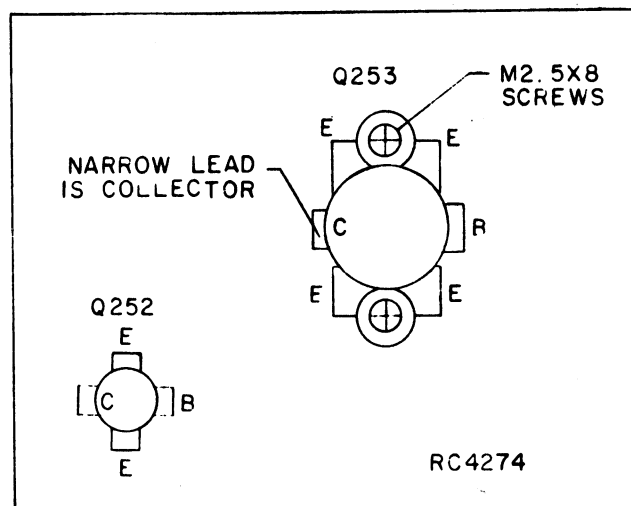

Figure 3 - Q251 Lead Identification
4. Trim the new transistor leads (if required) to the lead length of the removed transistor. The letter "C" on the top of the transistor also indicates the collector (see Figure 3 for transistor lead identification).